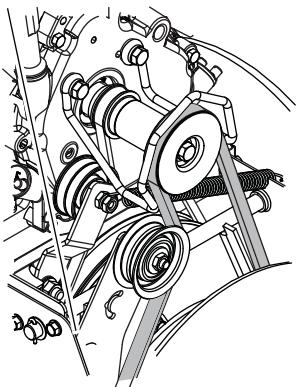

Figure 30
4. With the attachment clutch disengaged, check that the attachment idler arm lightly touches the frame (Figure 30).